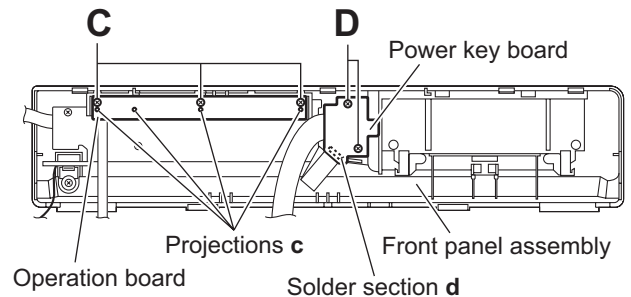

Fig.2
3.2.3 Removing the operation board (See Fig. 2)
3.2.4 Removing the power key board (See Fig. 2)